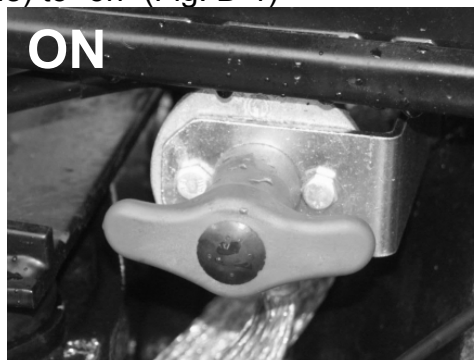

Fig.D-1 Location of the frame switch
- set frame switch (on the left side of the engine) to “on” (Fig. D-1)